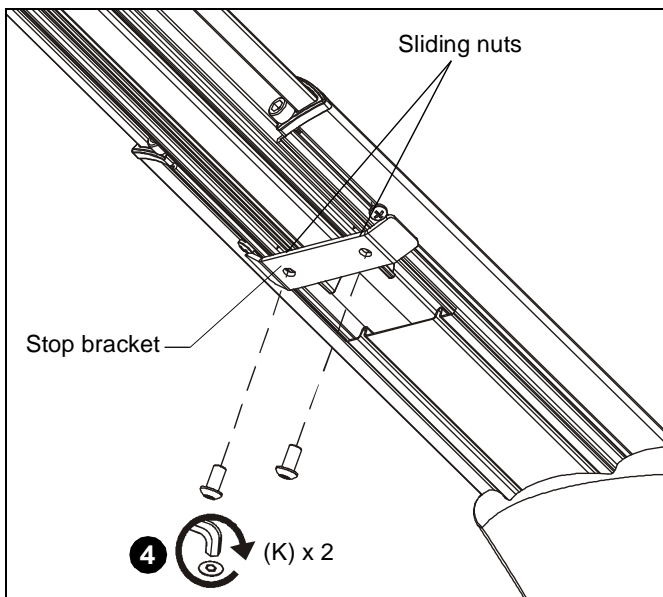

Figure 30
4. Install two 1/4-20 x 1/2" button head security screws (K) through holes in stop bracket and into holes in sliding nuts. (See Figure 30)